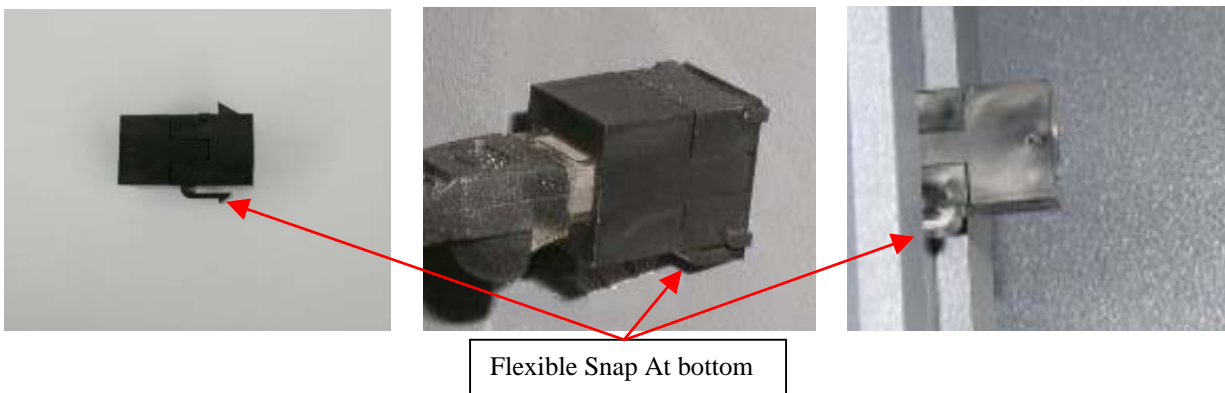

FIGURE 2-11 CORRECT OREINTATION AND INSTALLATION OF THE RJ45 FEEDTHROUGH
- b. If you have the plastic type, refer to Figure 2-11. Push the RJ 45 connector into the square hole from the **FRONT** of the Option Panel by inserting the top catch behind the panel and then swinging the connector down forcing the Flexible Snap to engage into the bottom of the square hole, locking it into place. The Block must be installed so the longest part of the block is facing **OUT**.